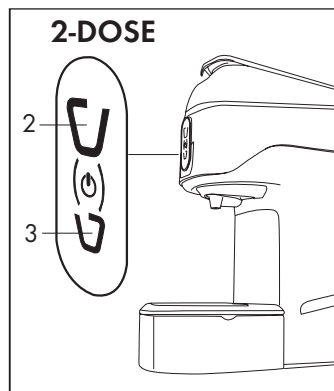

Fig. 4
- Switch on the machine by pressing one of the symbols (2) or (3) (**Fig.4**). The symbols (2-3) will flash intermittently until the temperature is reached; when the symbols (2-3) are lit with a fixed light the machine is ready for use.
To use the machine again, press a dispensing symbol (2-3) and wait for it to heat up: the dispensing symbols (2-3) will blink intermittently until the temperature is reached; when the symbols (2-3) are lit with a fixed light the machine is ready for use. (**Fig.4**).
The machine can be switched off by simultaneously pressing and holding down for 5 seconds the symbols (2-3) for the 2-Dose model or the symbol (3) for the 1-Dose model. (**Fig.4**)
- Check that there are no capsules inside the machine and that there is water in the tank (8); switch on the machine by pressing one of the symbols (2-3) or simultaneously the 2 symbols (2-3) for the 2-Dose model. For the 1-Dose model, press the symbol (3) (**Fig.4**)